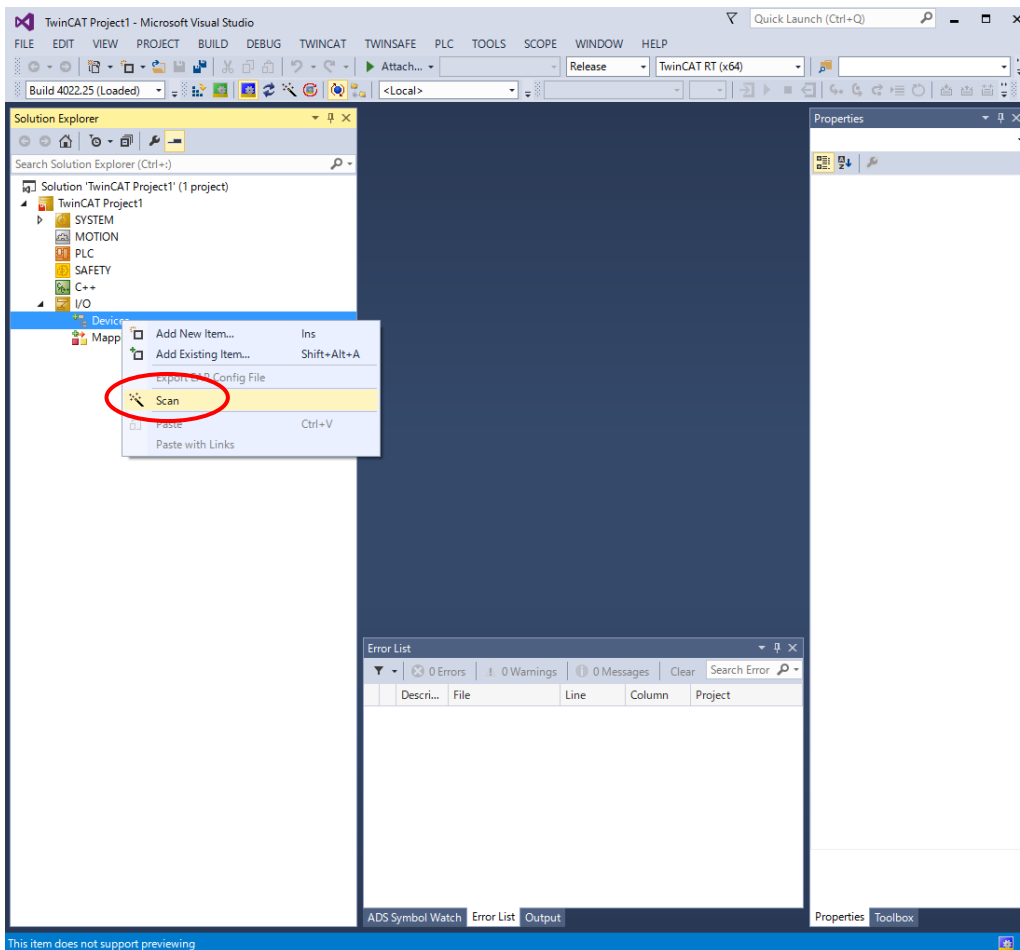

Figure 4-3 Scanning the network for new devices
(3) Right-click [Devices] and select [Scan] (Figure 4-3)